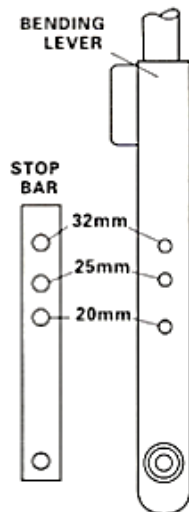

Figure2
3. Remove the bending lever retaining pin 2. Fit the grooved roller and pin in the appropriate position on the bending lever (Figure 2).
6. Swing the stop bar 4 to the upright position and insert the stop 5 in the appropriate hole (Figure 2). The machine is now ready.